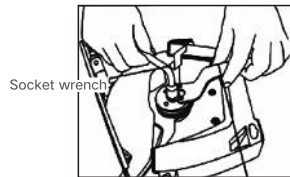
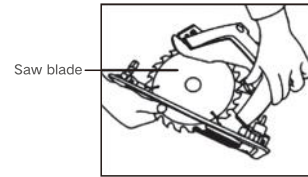
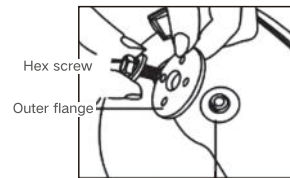

Fig 1 Two-foot wrench
Fig 2
Fig 3 Front clamping
Removing or installing saw blade(Fig1 & Fig2& Fig3)
1. Loosen the clamping screw on the flange depth guide and move the base up or down. At the desired depth of cut from getting the scale, secure the base by tightening the clamping screws(front clamping screw and rear end clamping screw). (Fig 3)